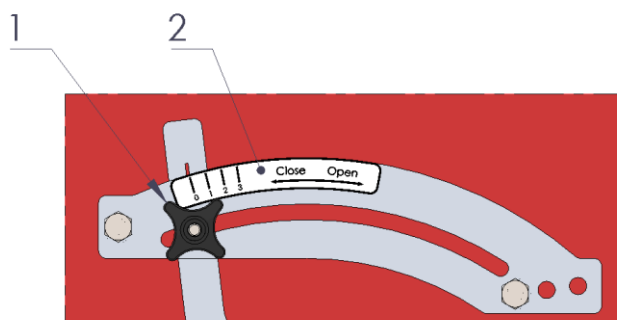

Figure 4a
3. The seed-element valve can be adjusted according to the size of the seeds that will be sown. In case of fine grass seed, the element valve must be closed completely. Then the gear wheel grabs the seeds. In the case of larger seeds, the space between the gear wheel and the valve is not large enough to let the seeds pass. Therefore, the valve needs to be opened more for larger seeds. Adjusting the size of the opening can be done using the valve adjustment handle. The handle can be adjusted by loosening the stellar knob (1), selecting the required position by means of the indication sticker (2), and retightening the stellar knob (see **Figure 4a**).